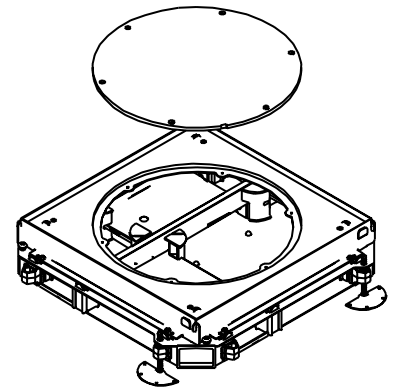

Figure 1
3. Remove the round cover plate from the junction box (see Figure 1).